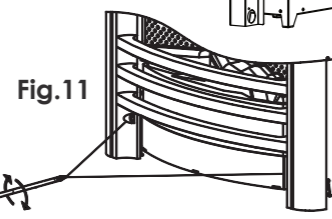

Fig.11
5. Now secure the Fire Frame using the two retaining screws (supplied) at the bottom of the Fire Frame behind the ash pan cover. (Fig. 11) Take care not to scratch the back panel.